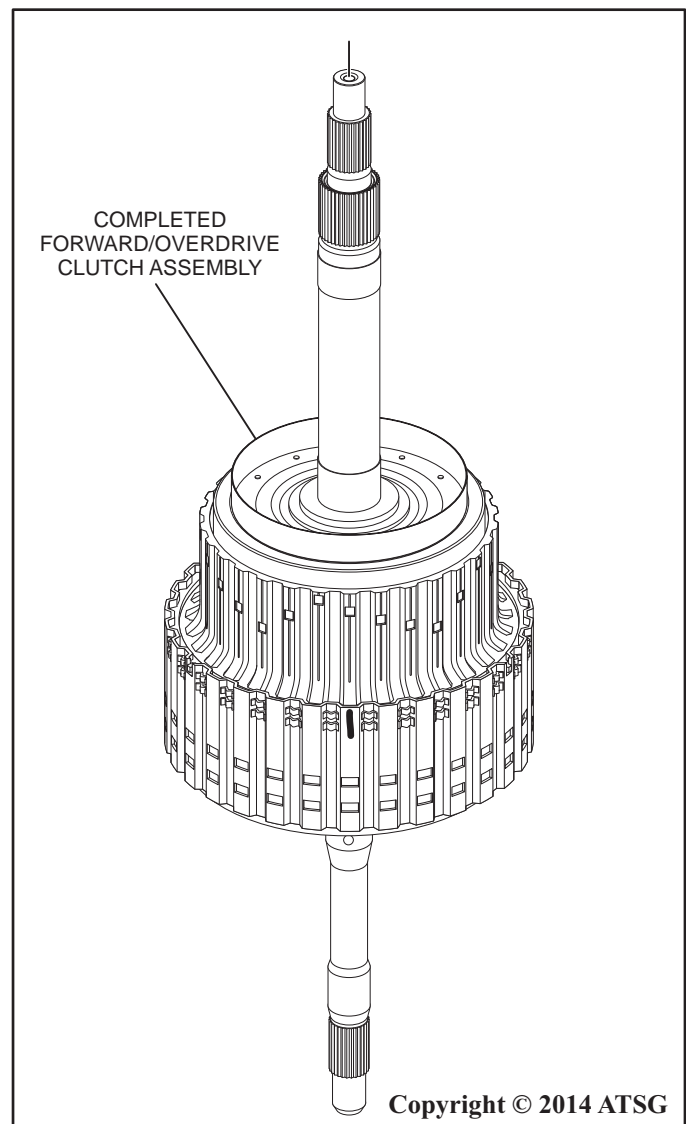

Figure 97
60. Make certain the snap ring is fully seated in the drum and set forward/overdrive clutch assembly aside for final assembly as shown in Figure 97.